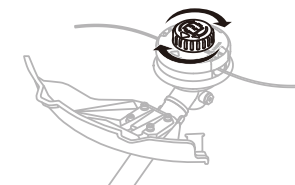

Fig. 8C
4. Hold the line cartridge with one hand and turn the bump knob counterclockwise with the other hand, until both ends are approximately 6 inches long. (Fig.8C)